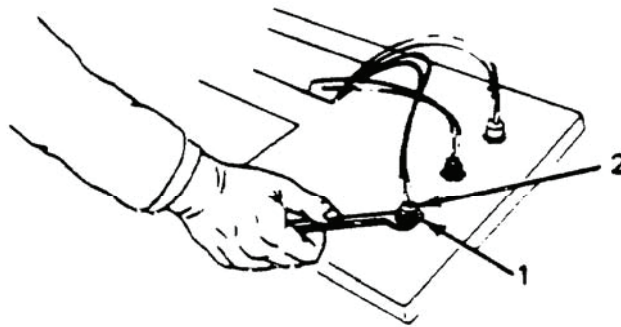

Figure 1. Phase Indicator Light Assembly (1 of 2)
4. Invert circuit breaker panel and loosen/remove hardware (Figure 1, Item 1).
5. Lift out individual phase indicator light (Figure 1, Item 2) from front of panel.